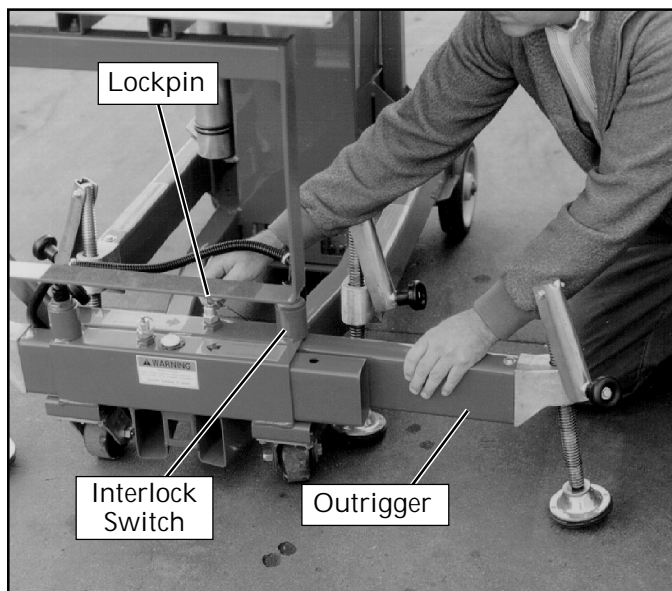

Figure 1A: Installing front outriggers
1. Pull each front outrigger out until lockpin engages (Figure 1A).